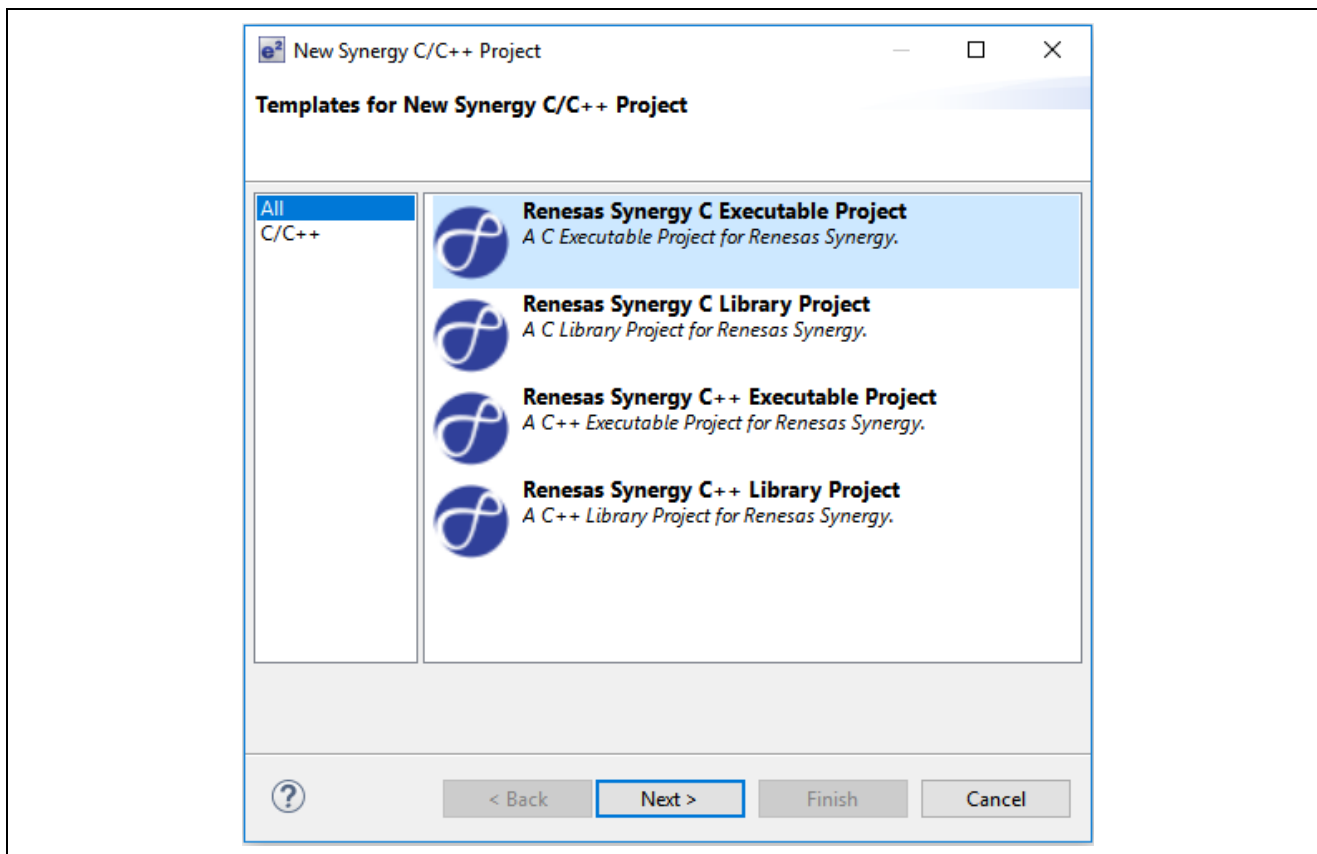

Figure 2. Choose “Renesas Synergy C Executable Project”
3. Choose **Renesas Synergy C Executable Project** and click **Next** (see Figure 2).